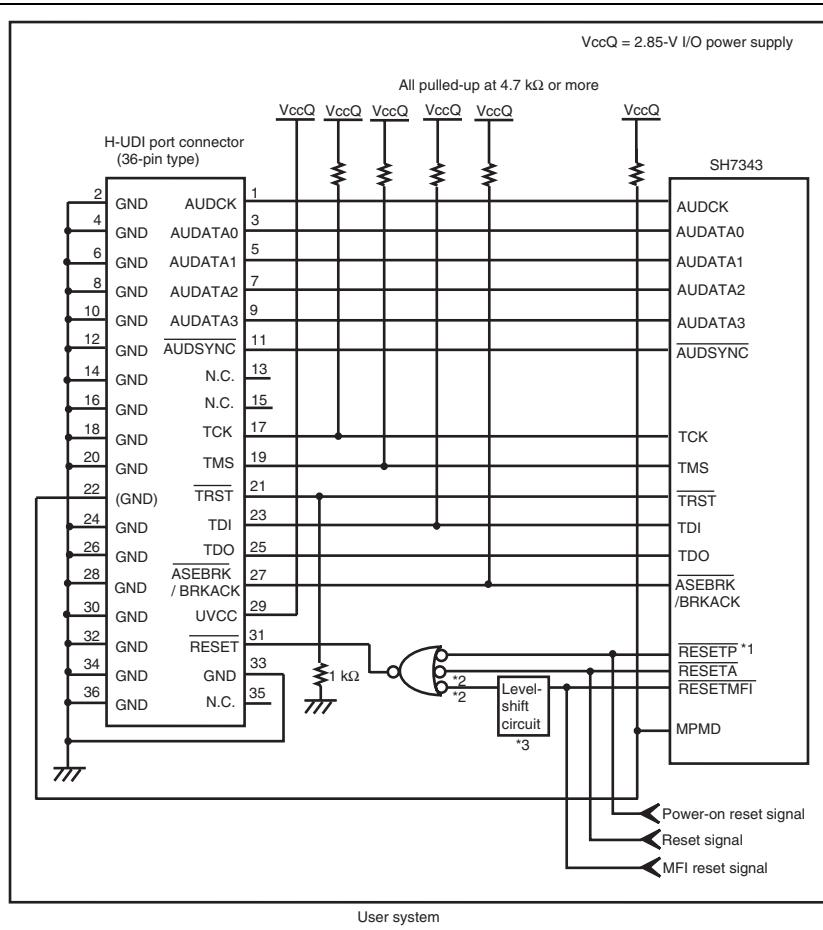

Figure 1.3 Recommended Circuit for Connection between the H-UDI Port Connector and MPU when the Emulator is in Use (36-Pin Type)
5. Connect /RESETP, /RESETA, and /RESETMFI to the user system if required, as shown in figure 1.3.
Figure 1.3 shows a recommended circuit for connection between the H-UDI and AUD port connectors (36 pins) and the MPU when the emulator is in use.
- (1) When the emulator is used: $\text{MPMD} = 0$
- (2) When the emulator is not used: $\text{MPMD} = 1$
- Figures 1.3 shows an examples of circuits that allow the MPMD pin to be GND (0) whenever the emulator is connected by using the user system interface cable.
7. The resistance values shown in figure 1.3 are reference.
When the circuit is connected as shown in figure 1.3, the switches of the emulator are set as SW2 = 1 and SW3 = 1. For details, refer to section 3.8, Setting the DIP Switches, in the SuperH™ Family E10A-USB Emulator User's Manual.
3. When V_{ccQ_MFI} is used at 1.8 V, the level-shift circuit in figure 1.3 is required to adjust the signal levels.
- (1) When the emulator is used: MPMD = 0
- (2) When the emulator is not used: MPMD = 1